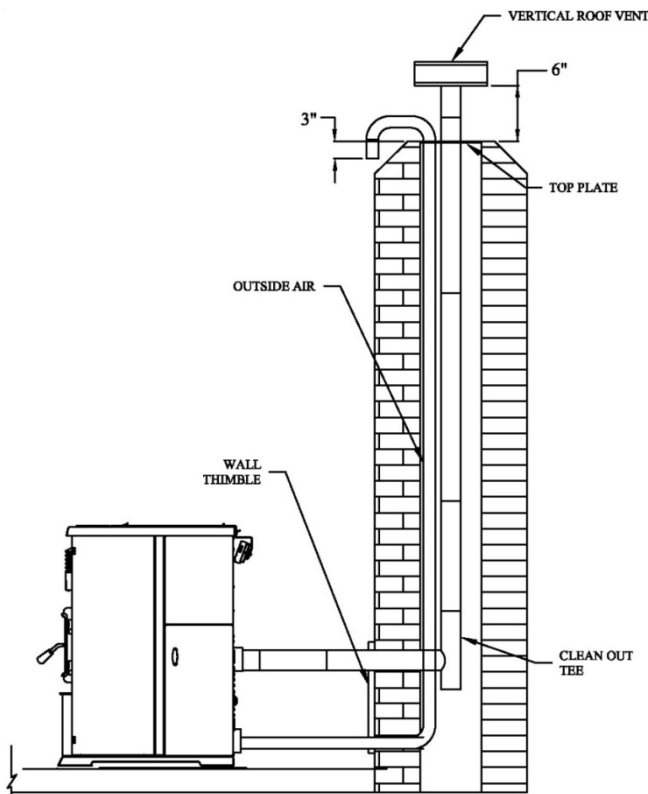

Figure 16
(Refer to figure 16)
4. Install the tee on the bottom of the vertical pipe system and lower it down the chimney until the center branch of the tee is level with the center of the hole in the masonry, as shown in Figure 16.